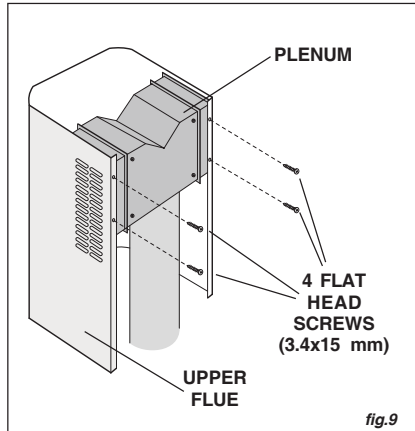

fig.9
- Secure the recirculation plenum to the upper flue with (4) flat head screws. Fig.9